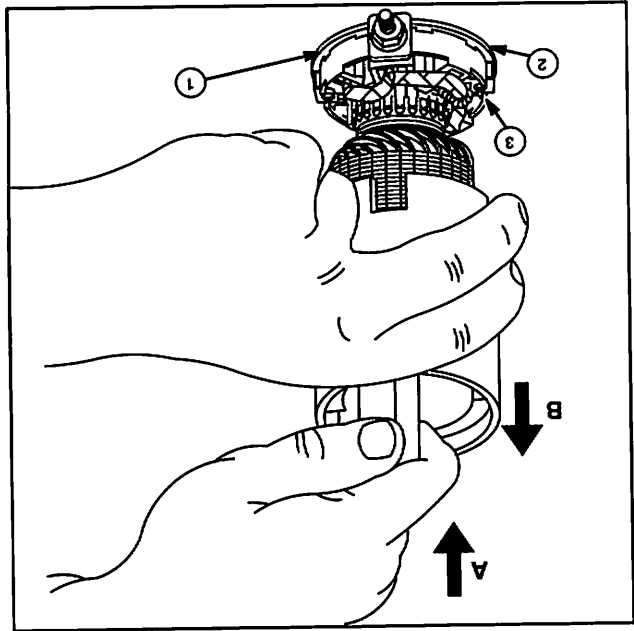

Fig. 68
4. Hold the armature "A" and bearing end cap (2) down against a work surface (1) while sliding housing up and off the armature (B). This allows the armature to remain in the bearing end cap and brush holder (3) for inspection of brush contact to armature, Fig. 68.